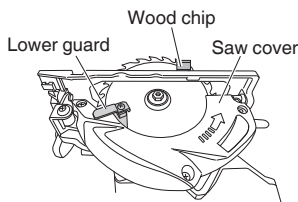

Fig. 20
(2) Retract the lower guard into the saw cover.
(3) Insert wood chip in the rear side of the saw blade base, and mark the position on the base (Fig. 20).